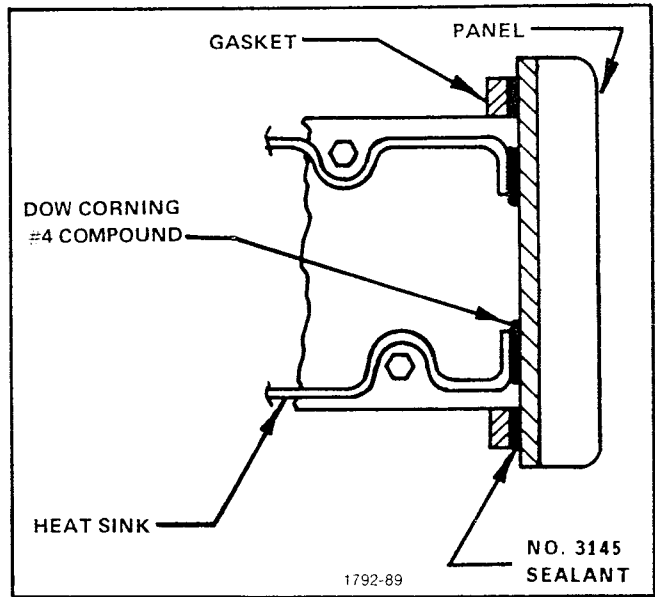

Fig. 5-36. Battery Pack Dielectric Application
- c. Apply Dow Corning No. 4 Silicon Dielectric Compound to mating surfaces of heat sinks and panel, and join per Figure 5-36.
- e. Apply No. 3145 sealant to gasket, and attach gasket to panel per Figure 5-36.